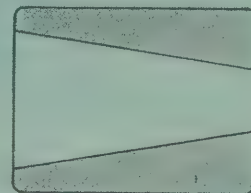

Fig. 8—A partially shorted yoke will cause this trapezoidal type pattern.
5. A shorted yoke is usually indicated by collapse of the sweep or a trapezoidal picture as in Fig. 8.